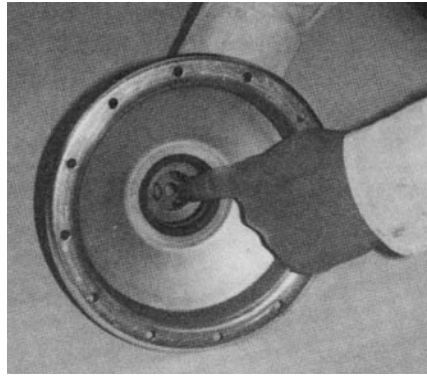

Figure 4-8 Pressing shuttle out of upper housing.
- 4.7.2 From inside the upper housing, push upward on shuttle stop (4F) to remove the shuttle assembly. See Figure 4-8.